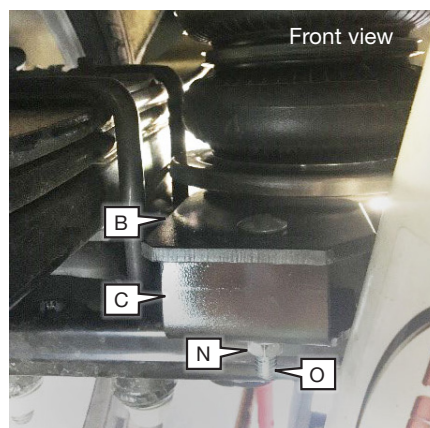

Fig. 18
- Place the assemblies on the lower strike plate with the fitting side of the assembly to the outside (wheel side) of the vehicle. Align the tab on the forward clamp bracket (C) with the hole on the front of the lower bracket (B) (Fig. 18).
- Insert two carriage bolts (O) on the rear square holes and one carriage bolt on the front square hole of the lower bracket (B) (both sides) (Figs. 18 & 19).